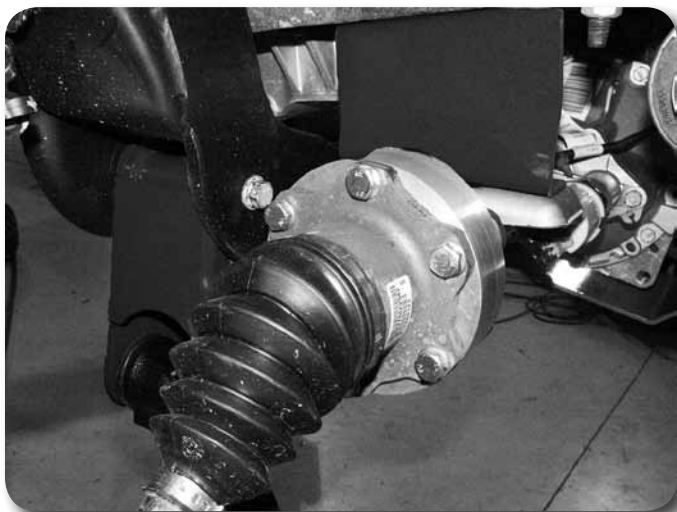

Figure 27
54. Position the provided CV spacer between the CV shaft and the differential mounting flange **Figure 27**. Fasten the CV and spacer to the differential flange with 10mm x 70mm bolts and 10mm washers. Use Loctite on the bolt threads and torque to 45 ft-lbs using a crossing pattern.